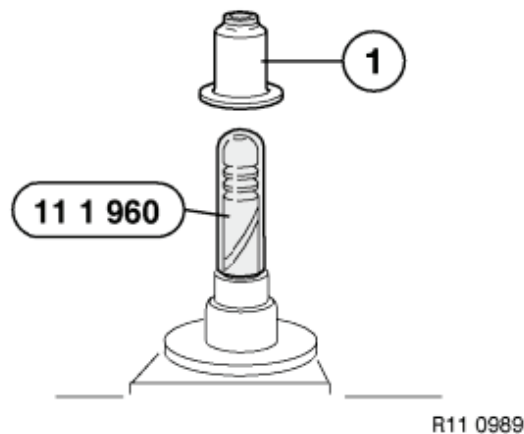

Figure 5-30
5. Coat new valve stem seal (**Figure 5-30, (1)**) with oil and install over tool. Remove special tool OEM No. 11 1 960.